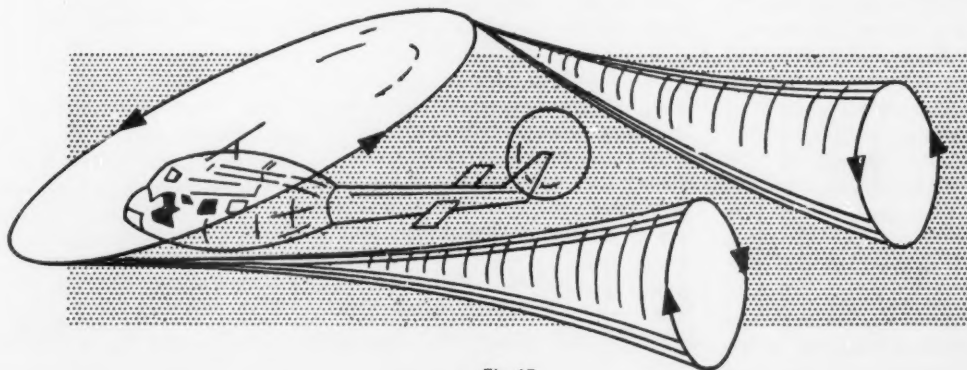

Fig. 17
**Helicopters.** A hovering helicopter generates a downwash from its main rotor(s) similar to the propwash of a conventional aircraft. In forward flight, however, this energy is transformed into a pair of trailing vortices similar to wingtip vortices of fixed-wing aircraft. Aircraft should avoid these vortices as well as the downwash (see Fig. 17).